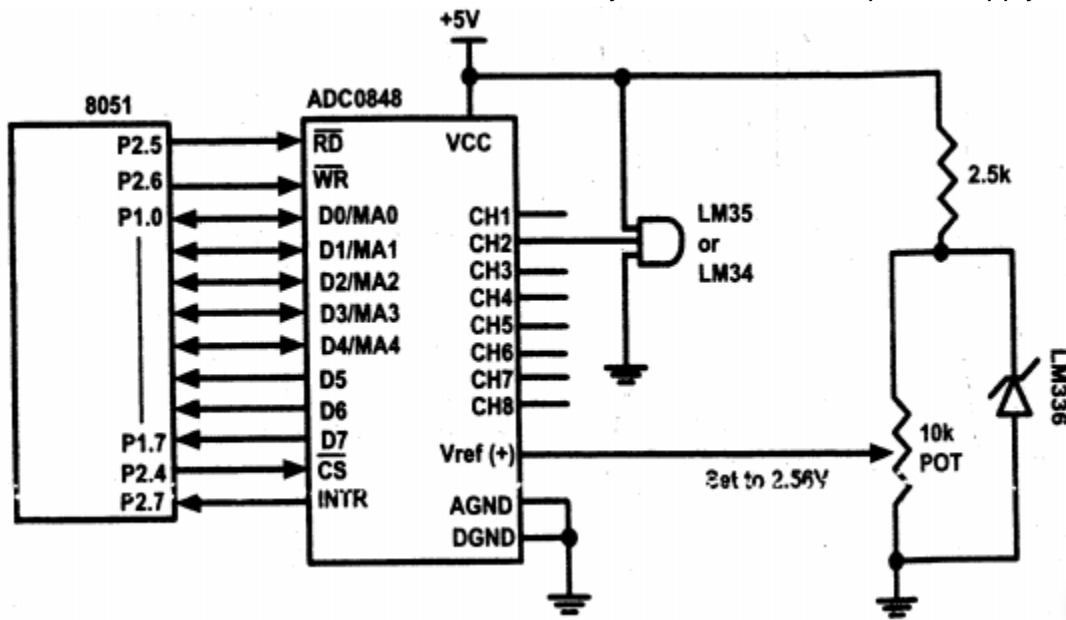

Figure 5.11 8051 Connection to ADC0848 and Temperature sensor
- Figure 5.11 shows the connection of a temperature sensor to the ADC0848.